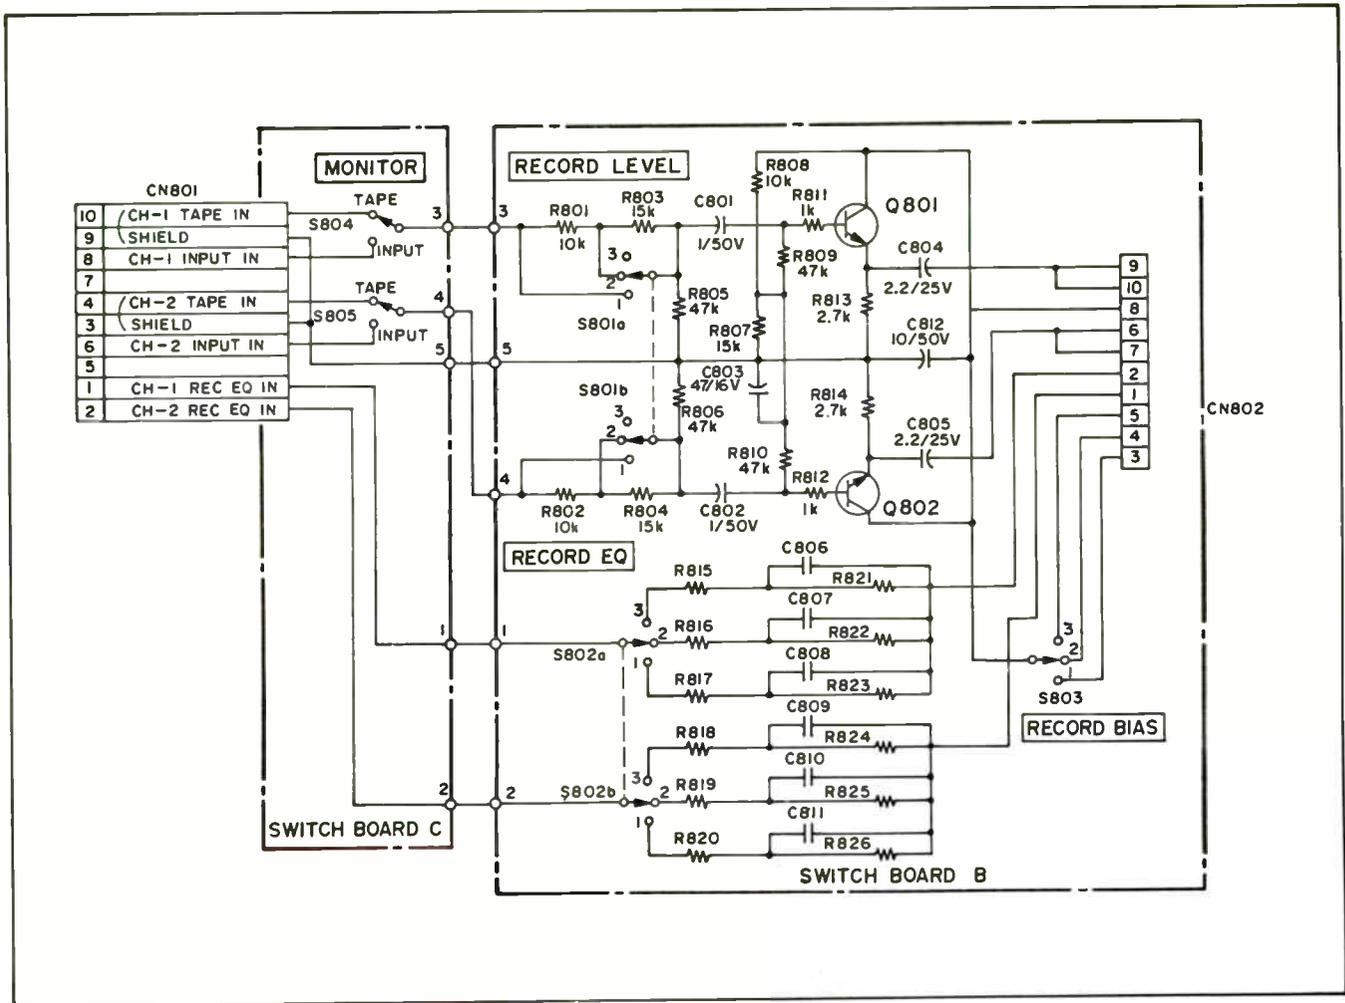
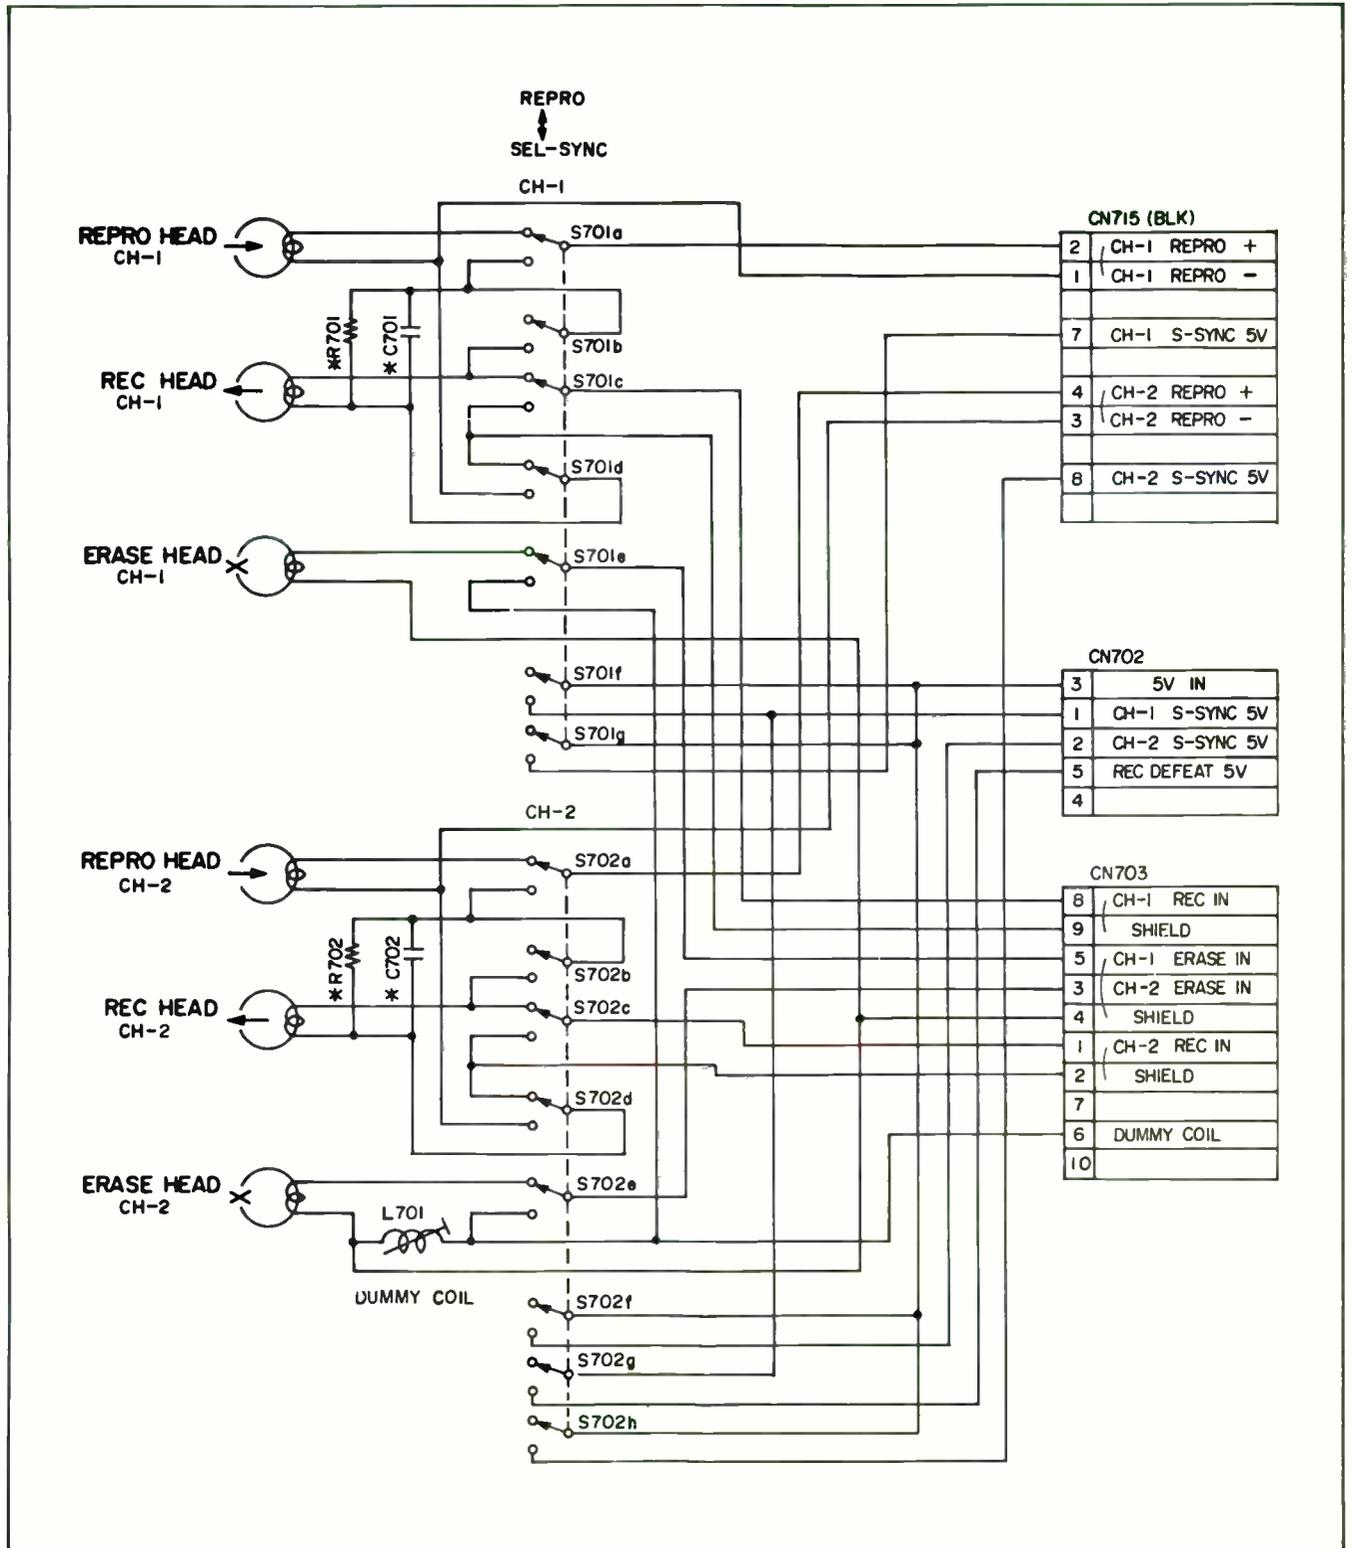

Figure 4-16. Switchboard B, C Schematic
Figure 4-17. Head Assembly Schematic
**4-18. Buffer Amplifier.** The output of the buffer amplifier (Q801 and Q802 on switchboard B) is divided and fed to two lines. One goes to the vu meter amplifier and on to the vu meters. The other goes to the output level control and on to the line output amplifier. The output of the line amplifier is then fed to the line out terminals through an output matching transformer, and to the phones output jack through the phone amplifier. (Figure 4-16 is the schematic of switchboards B and C.)
**4-28. Switchboard B.** Refer to schematic, Figure 4-16. Switchboard B PWA carries the following switch functions:
2. RECORD LEVEL switch – This switch is used to prevent overscale reading on the vu meters during high-level recording or when playing back a high-level recorded tape. It is used to reduce monitor output level. Attenuation levels for each switch position are: (1) 0 dB, (2) 3 dB, and (3) 6 dB.
**4-29. Head Select PWA.** See schematic, Figure 4-17. Since the ATR-700 has a synchronous reproduce mode, the head select PWA is used to perform the head switching function and the necessary signals for head switching. During synchronous reproduce mode, the record head is switched to a reproduce function as follows: